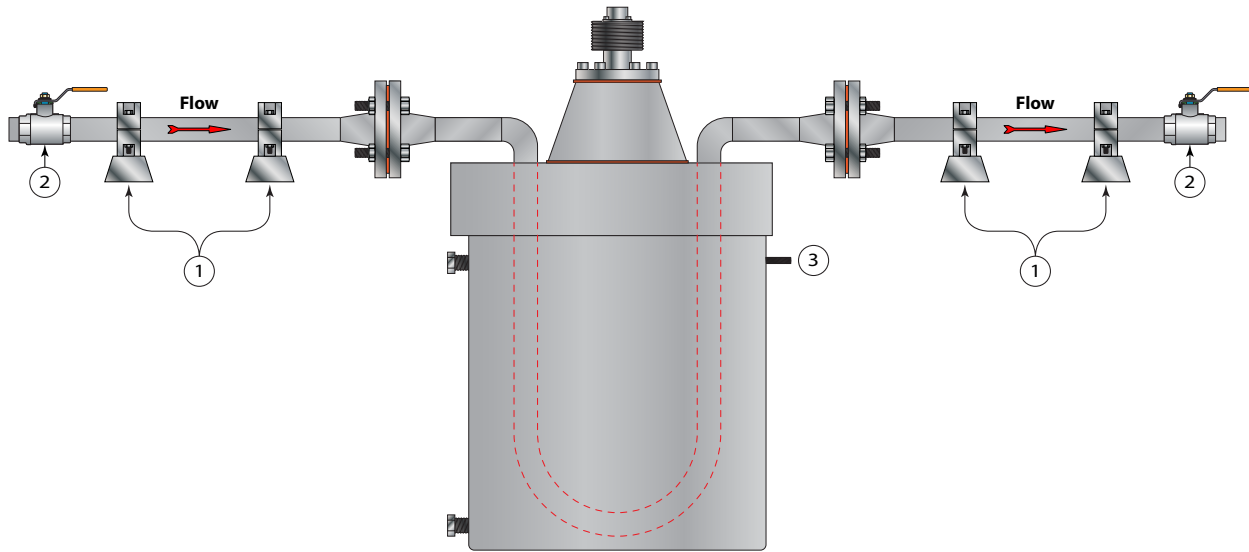
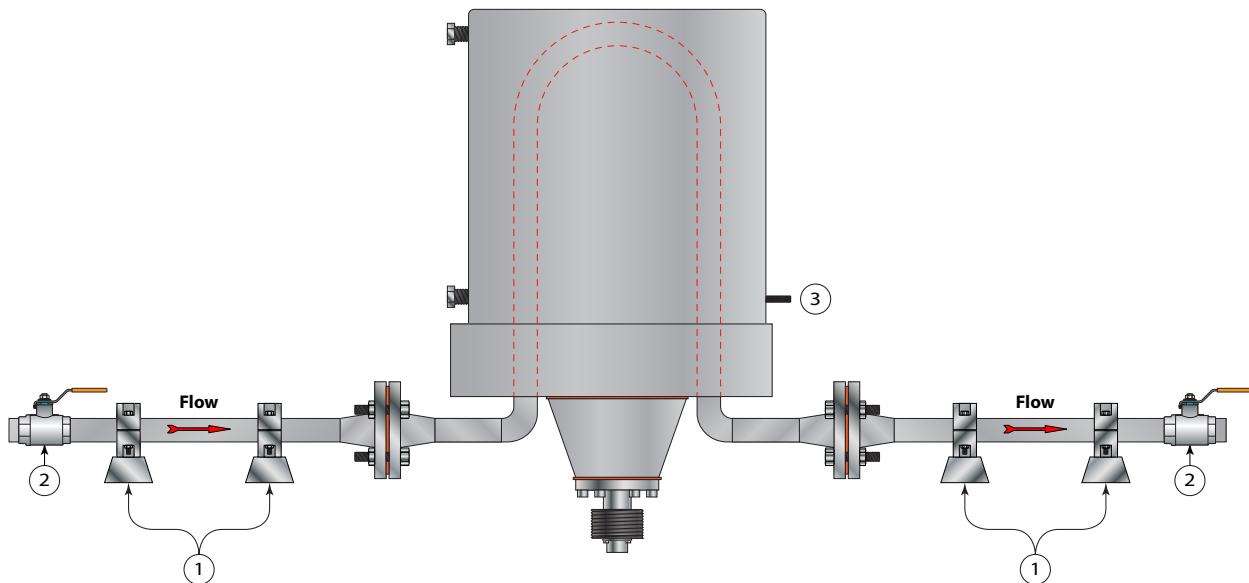
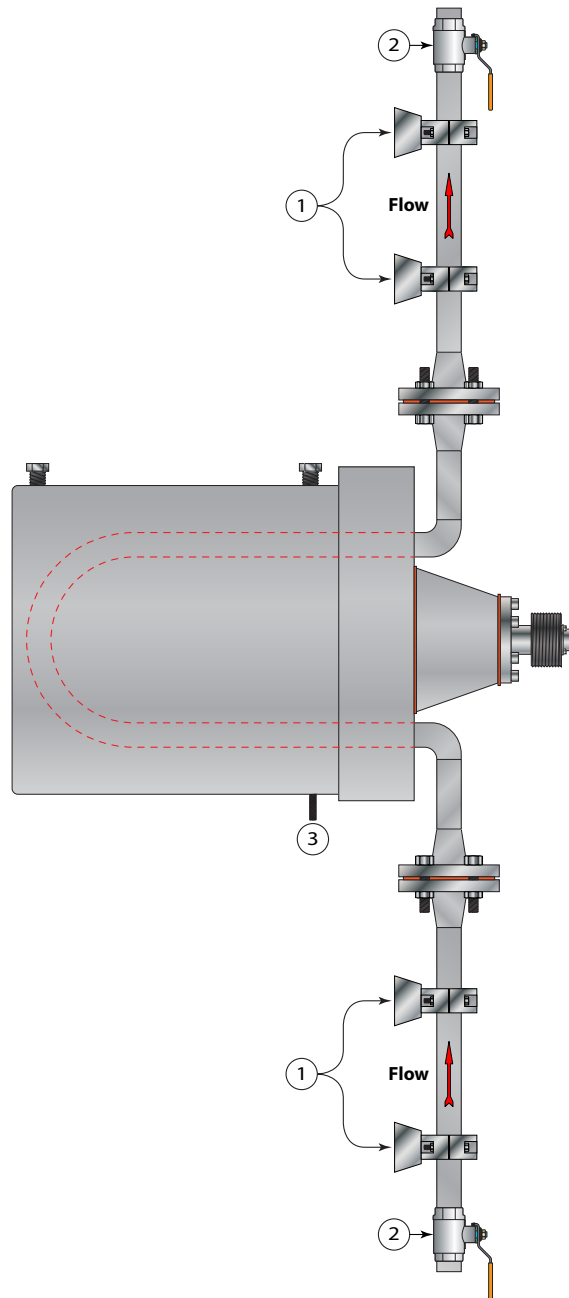

Figure 17: Tubes down (liquids)
Figure 18: Tubes up (gases and slurries)
Figure 19: Tubes to the side with flow going up (self-draining)
5. Control valves should be mounted downstream of the flow meter to prevent possible cavitation especially when measuring liquids with low boiling points (see *Figure 17*).
7. Vertical piping installations should have the flow going up through the meter (see *Figure 19*).
13. Verify that the flow sensor is earthed/grounded at the earth connector located on the sensor side. An AWG #10 or larger protective ground must be connected to the side grounding terminal for the system to work correctly (see *Figure 17*, *Figure 18* and *Figure 19*).
Vibration reducing pipe supports should be used in all applications. The mounting orientation shown in *Figure 17* is recommended for liquid applications.
For gas or slurry applications where condensate may be present, mount the sensor as shown in *Figure 18*.
For self-draining configurations, mount the RCS sensors in vertical pipelines as shown in *Figure 19*.